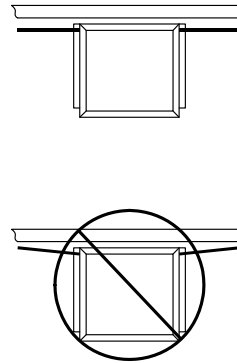

Figure 20
5. Adjust the chain bolts to tighten the chain. The chain should sag no more than one (1) inch per 10 feet of travel. Do not over tighten the chain. **IMPORTANT!! Be sure that the chain is parallel to the gate (figure 20). Installing the chain in any other manner will cause excessive noise, chain idler wear and chain stretching.**